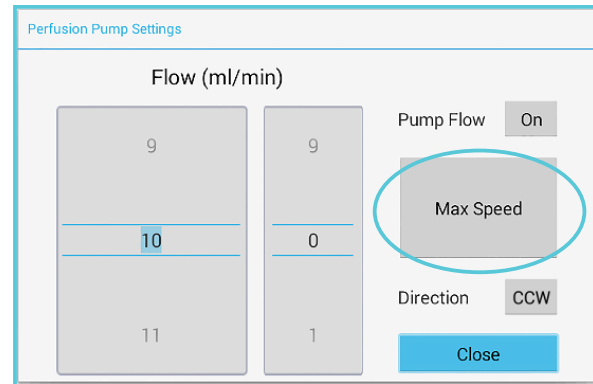

Fig.144.
- Press the Max Speed button in the Flow menu as shown in fig.144. Close the Aortic Inlet stopcock when all buffer has been emptied into the Water Jacketed Buffer Reservoir.